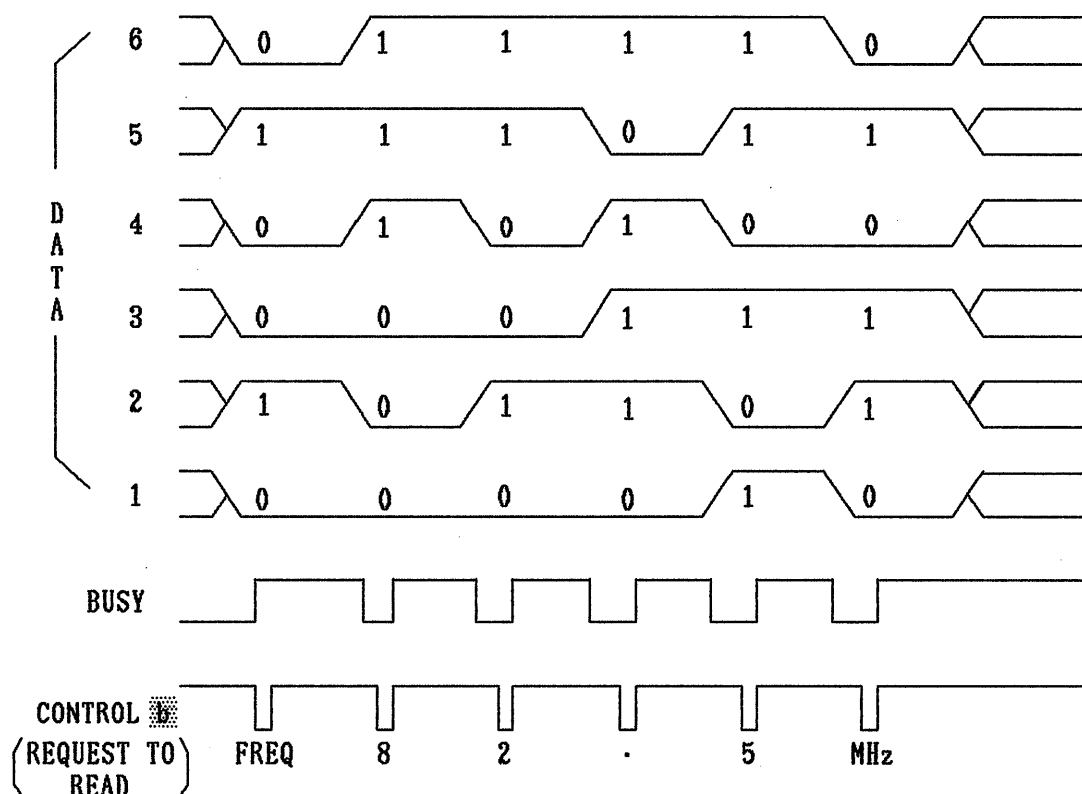

Figure 5-3
- 3) Set the data "82.5" according to the code table and send CONTROL  signal as shown in Figure 5-3.